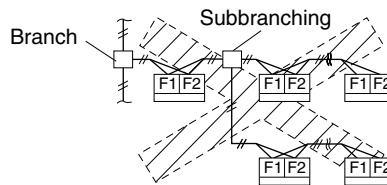

Fig. 15
- Up to 16 branches are possible for unit-to unit cabling. No branch is allowed after first branch. **(Refer to Fig. 15)**